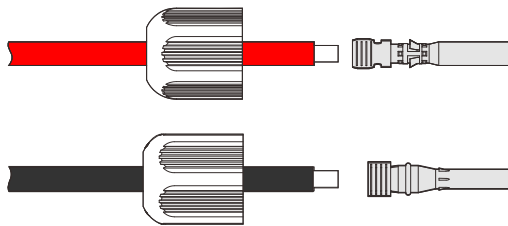

Figure3-17 Crimp the metal terminals
- Step 2 Loosen the lock nuts of the positive and negative connectors, draw the positive and negative wires through the corresponding lock nuts, and crimp the positive wire and negative wire to the positive and negative metal terminals respectively, and then check whether the positive and negative wires are crimped firmly, as shown in Figure3-17.